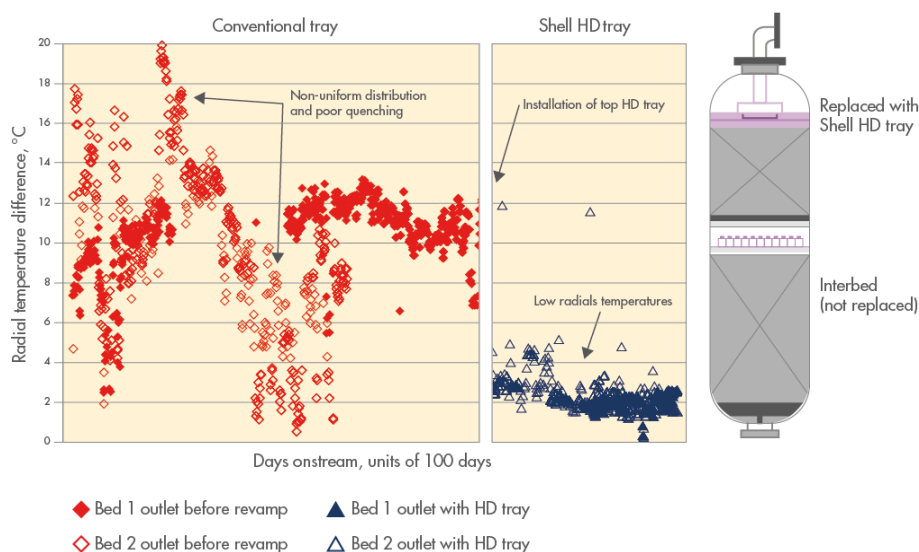

Figure 3: The radial temperature differences at the bed outlet before and after retrofitting a Shell HD tray above the top bed.
Proof point: Operations at a hydrocracking unit were being hampered by liquid–vapour maldistribution in Bed 1. This resulted in major thermal maldistribution that was transferred to Bed 2 owing to the poor performance of a conventional interbed internal. As shown in Figure 3, when the original bubble-cap distribution tray at the top of Bed 1 was replaced with a Shell high-dispersion (HD) tray, the radial thermal maldistribution in both beds was virtually eliminated. The average radial temperature difference at the bottom of Bed 1 dropped from 10.6 to 1.6°C and from 8.0 to 2.4°C at the bottom of Bed 2.